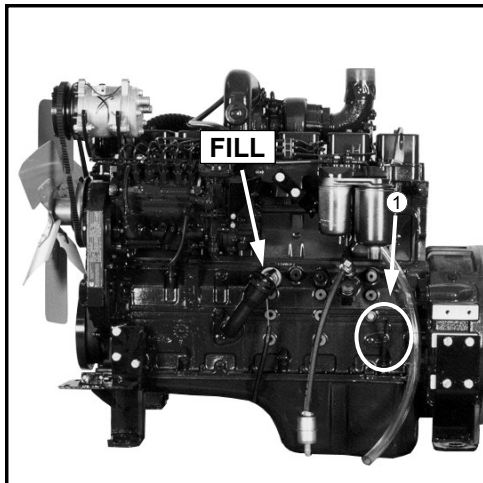

FIG 7.1
OIL LEVEL - The engine oil level dipstick is located on the left-hand side of the diesel engine (fig. 7.1, item 1). Never operate the engine with the oil level below the “L” (low) mark or above the “H” (high) mark. Wait at least five minutes after shutting off the engine to check the oil level; this allows time for the oil to drain to the oil pan. Check the engine oil level daily.